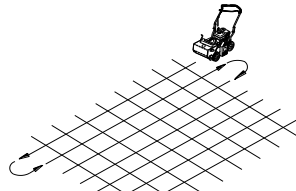

Fig. 5
**SLICING / OVERSEEDING:** Mow the lawn to shorter than the normal cut height before starting (i.e. approximately 2" tall for fescue grass). For the best result, slice/overseed in criss-cross pattern (See Fig. 5 & 6).